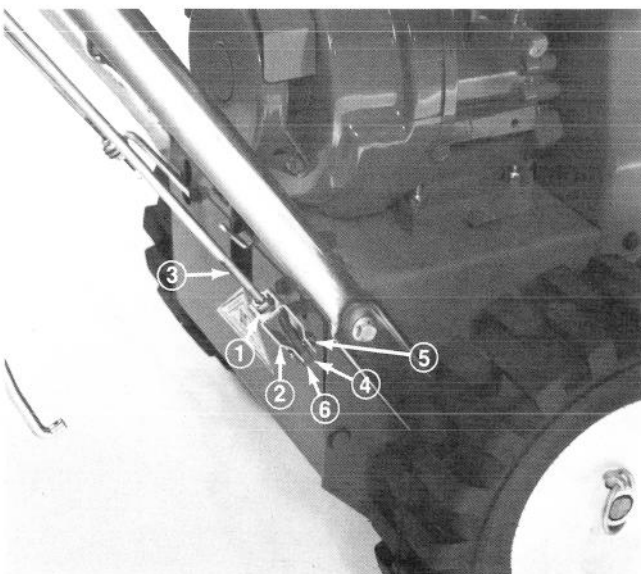

Figure 7
5. After adjusted, install clevis pin and secure with cotter pin. Tighten jam nut to secure clevis (Fig. 7).
1. Loose jam nut above clevis on upper control rod (Fig. 7).
2. Align holes in clevis and lower control rod, secure with clevis pin (Fig. 7).